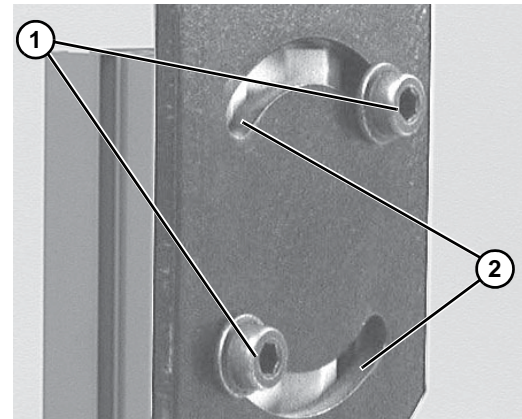

Figure 24
To rotate stand top plate, screws (Figure 24, item 1) may need to be re-located to other t-slots (Figure 24, item 2).
1. Loosen flange socket screws (Figure 24, item 1) on both sides of stand.
<p>Failure to secure screws (Figure 24, item 1) may cause conveyor sections to drop down, causing severe injury. TIGHTEN SCREWS (Figure 24, item 1) AFTER ADJUSTMENT.</p>
3. Secure flange socket screws (Figure 24, item 1) to 24 ft-lb (18 Nm).